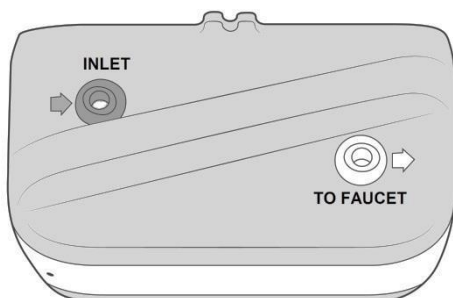
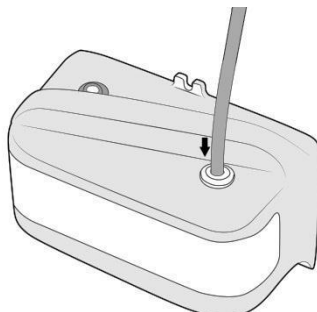

FIG 6A
FIG 6B
Identify the INLET & OUTLET of the unit (Fig 6A). Connect the other end of tubing to OUTLET Acculink™ fitting by pushing the tube into the fitting until it touches the tube stop and cannot go in any further (Fig. 6B). Pull tube to confirm secure connection. **Note:** To remove tubing from the fitting, press the collet in with two fingers while pulling tube out (Fig 6C). Without pressing the collet, the tubing will stay locked in position.
- Push the other end of the 1/4" tube into the INLET fitting on the unit as shown in Fig. 6B.